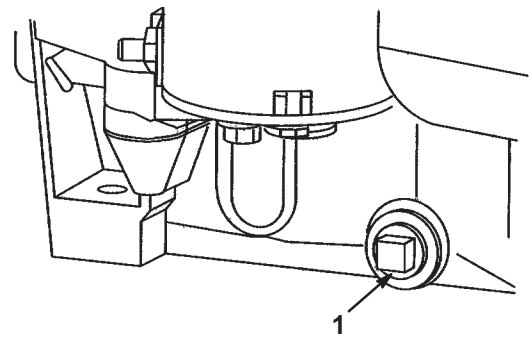

Figure 19
- Place a pan below the oil dipstick/fill tube and remove the drain plug (Fig. 19).